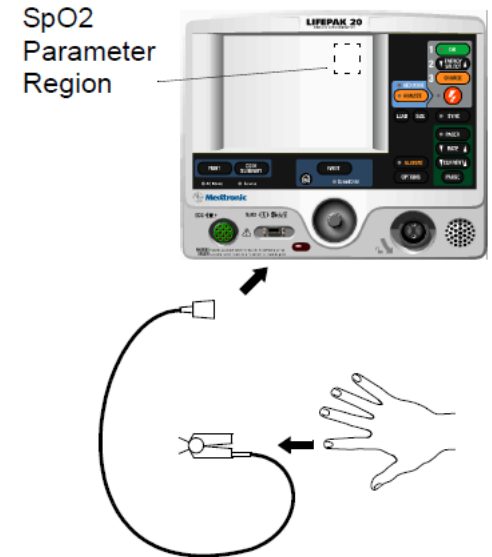

Figure 1.5: SPO2 Test
2. Connect the SpO2 finger probe to the SpO2 connector as shown in Figure 1.5.